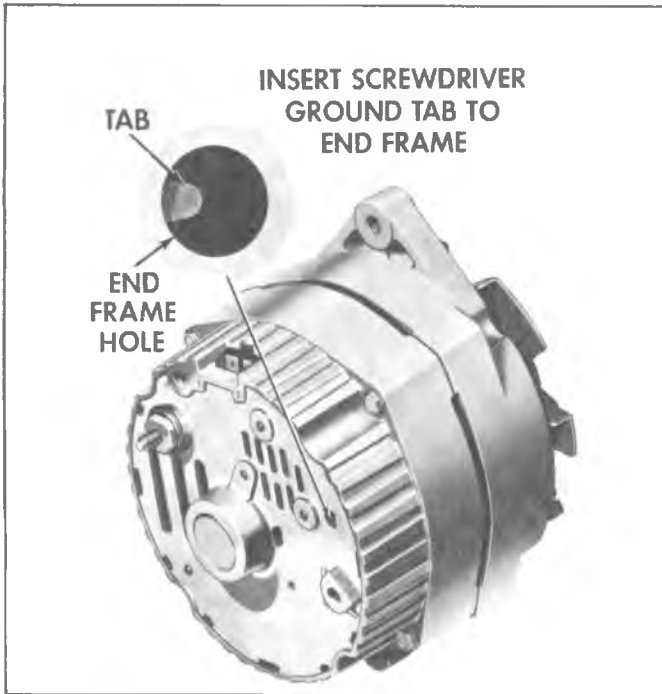

Fig. 4d—Delcotron End View
7. If output is not within ten percent of rated output, ground generator field (Fig. 4D).